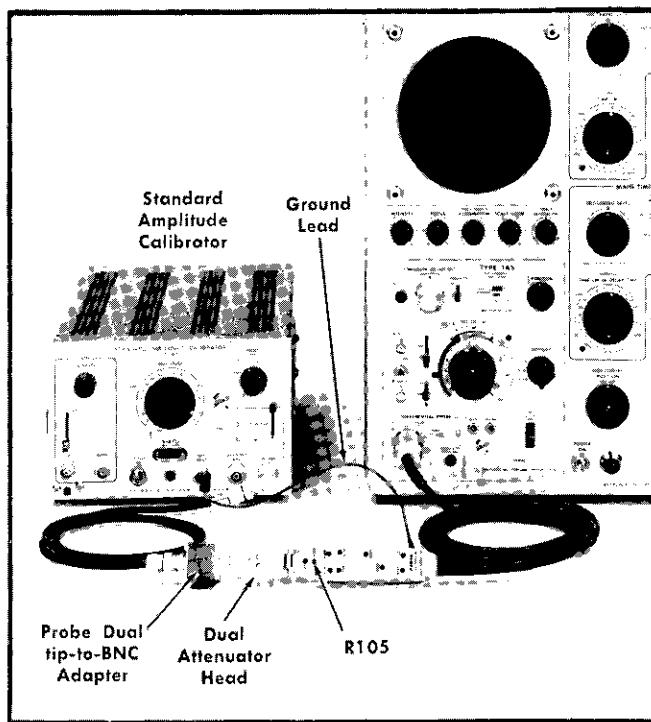
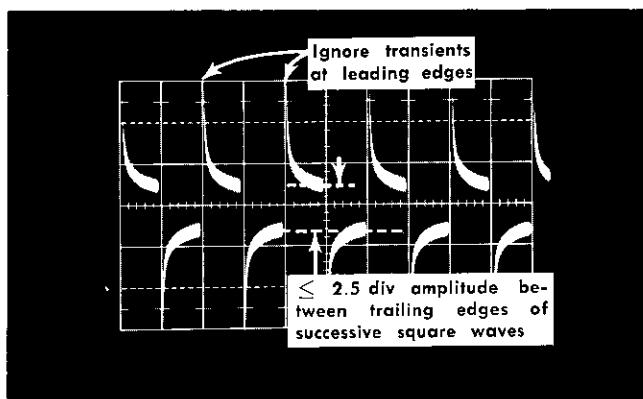

Fig. 6-5. Equipment setup for attenuator DC common-mode balance, step 3.
Fig. 6-6. Attenuator DC common-mode balance waveform, step 3. Sweep rate 0.5 ms/div; deflection factor 10 mV/div.
- a. The preliminary control settings apply. The equipment setup and adjustment location appear in Fig. 6-5.
- c. Connect a ground lead (item 21) from the Probe ground lug to the chassis of the Standard Amplitude Calibrator (item 4); then connect the following components to the Standard Amplitude Calibrator right OUTPUT jack in the sequence listed:
- f. Adjust the vertical POSITION control and the Oscilloscope triggering controls for a centered, stable display as in Fig. 6-6.
- g. CHECK—Attenuator DC balance. 2.5 div or less display amplitude should exist between the trailing edges of the square waves as indicated in Fig. 6-6.
- h. ADJUST— $\times 10$  HEAD DC ATTEN CM BAL (R105, Fig. 6-5) for minimum display amplitude between the trailing edges of the square waves. See Fig. 6-6. (Ignore the transients at the leading edges of the square waves.) 2.5 div or less for 2000:1 or greater CMRR.